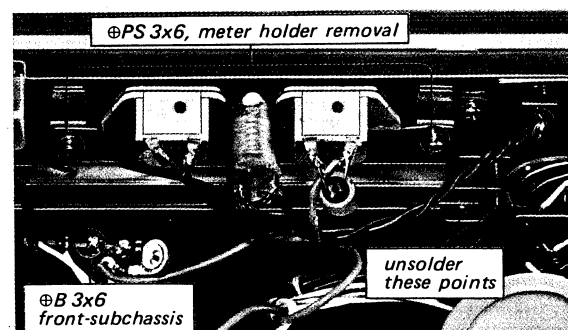
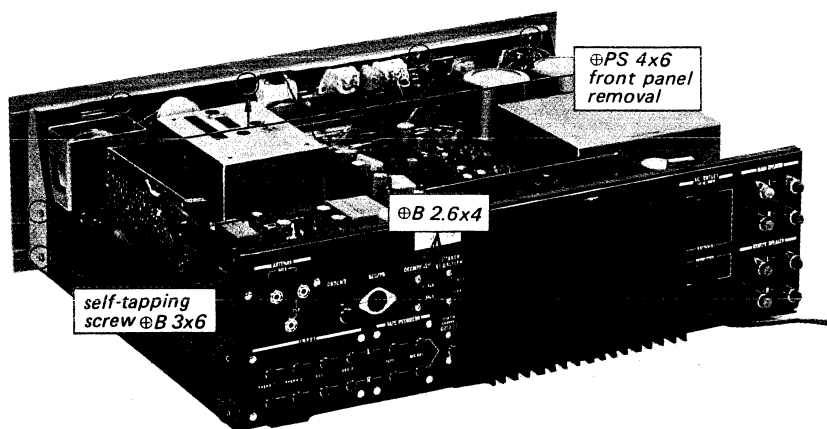

Fig. 2-3 Front subchassis removal
Fig. 2-4 Rear view
3. Remove the four screws ( $\oplus$ PS 4x6) behind the top edge of the front subchassis as shown in Fig. 2-4.
2. Remove the two self-tapping screws ( $\oplus$ B 3x6) at each side of the chassis (see Fig. 2-4) and one screw ( $\oplus$ B 3x6) securing the terminal strip to the chassis as shown in Fig. 2-3.
3. Unsolder the lead wires from the dial lamp socket as shown in Fig. 2-3.
3. Remove the two screws ( $\text{#PS } 3 \times 6$ ) securing the meter holder to the front subchassis as shown in Fig. 2-3.
3. Remove the four screws ( $\text{Ø} B 2.6 \times 4$ ) securing DE-EMPHASIS and SPEAKER EQUALIZER switches to the rear panel as shown in Fig. 2-4.
5. Remove the two self-tapping screws ( $\text{Ø} B 3 \times 6$ ) at each side of the chassis as shown in Fig. 2-4. This frees the rear panel as shown in Fig. 2-17.